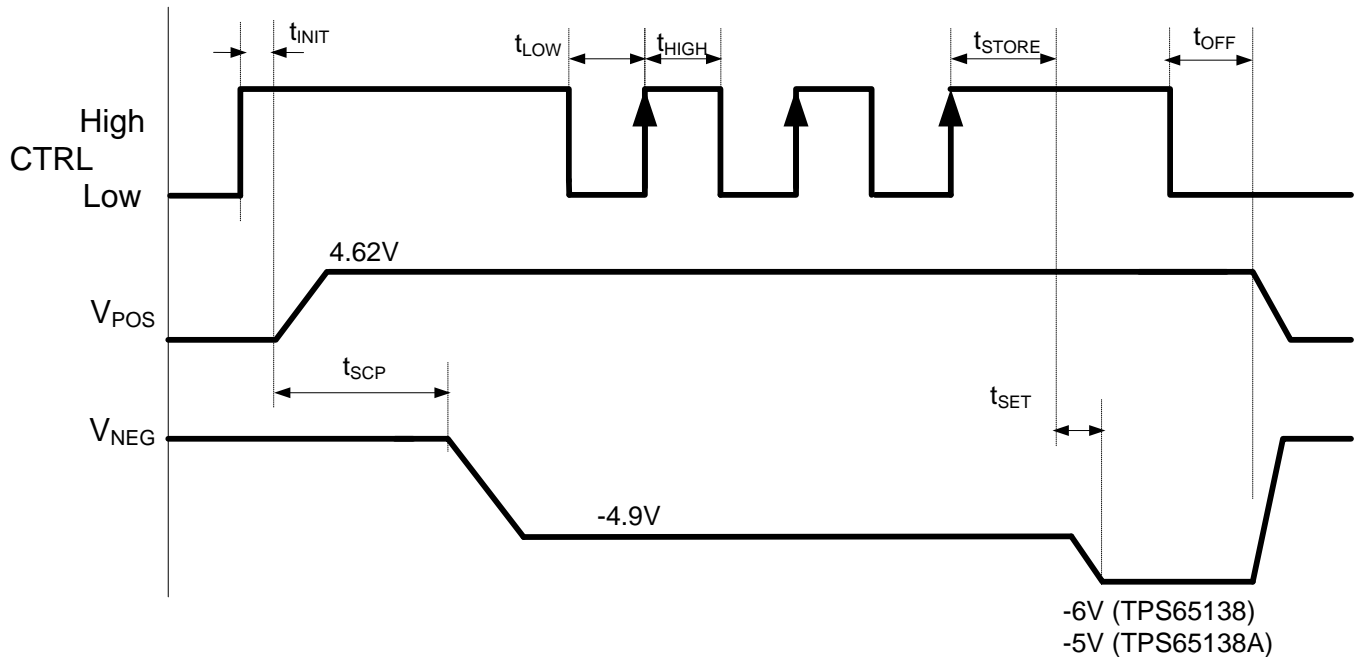

Figure 9. Digital Interface Using CTRL
The digital interface allows programming the negative output voltage V_{NEG} in digital steps. If the digital output voltage setting is not required then the CTRL pin can also be used as a standard enable pin. The digital output voltage programming of V_{NEG} is implemented by a simple digital interface with the timing shown in Figure 9.
- Changed the TYPICAL CHARACTERISTICS. Deleted Figure 2, Figure 3, Figure 9 through Figure 12 7
- Changed Figure 9 10